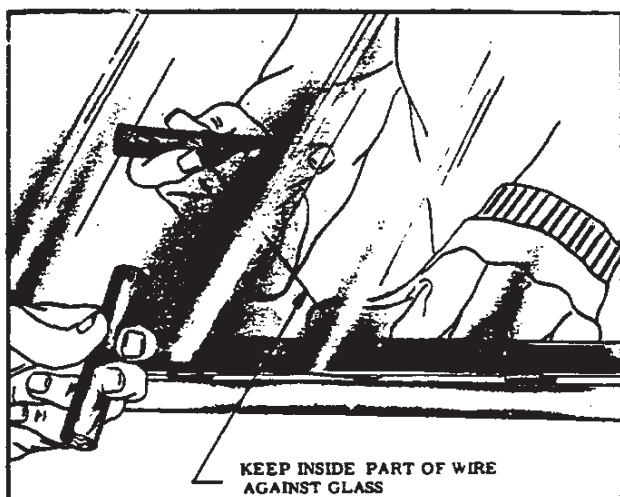

Fig. 12—Removing Old Glass From Opening
4. Remove lower corner reveal moldings (L and R) by removing two (2) screws located at end flanges to fender, and carefully prying out from retaining clips.
5. Remove side retainer moldings (L and R) by removing three (3) screws to frame.
6. Remove side reveal molding (L and R) by removing one (1) remaining screw.
8. Secure one end of steel music wire to piece of wood for handle. Insert other end through caulking material at lower corner of windshield; then secure end of wire to another piece of wood (fig. 12).